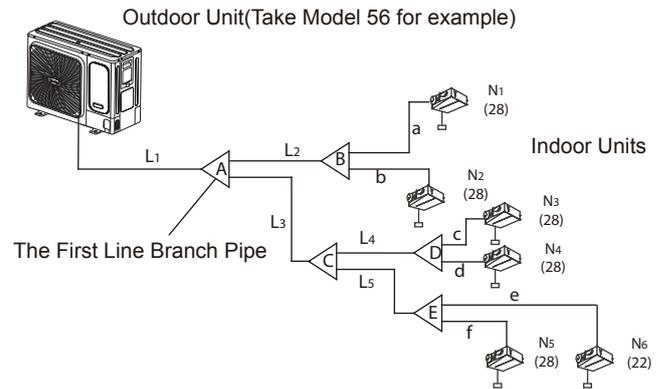
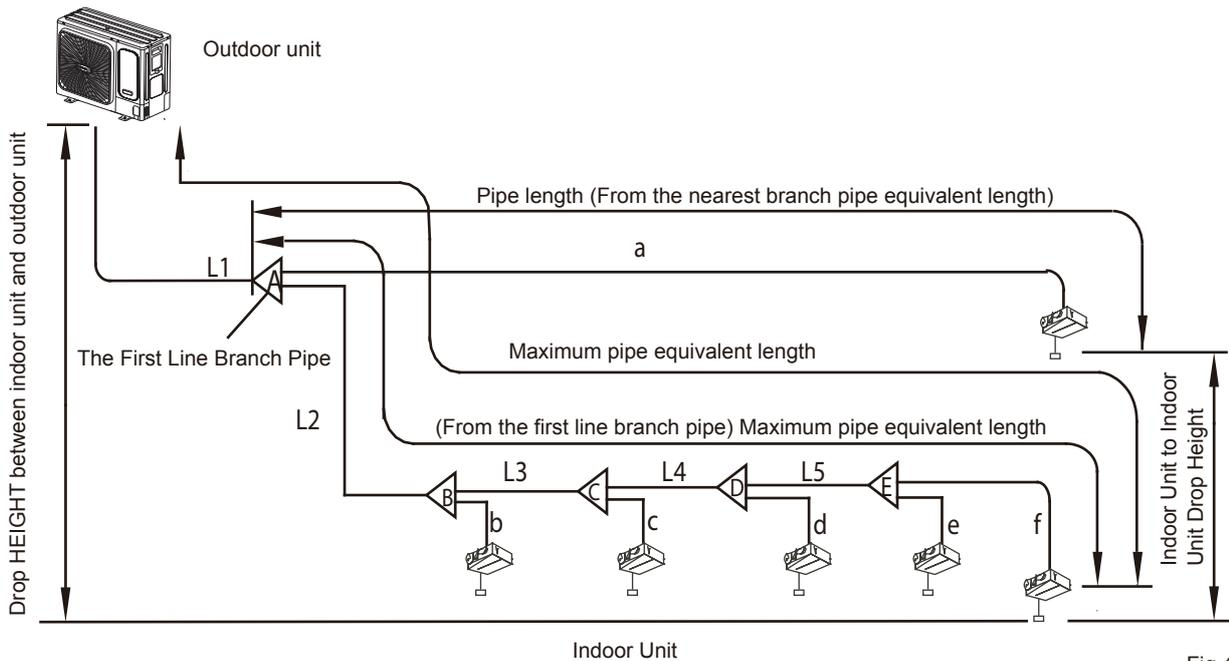

Fig.4-6
Fig.4-7
- Main pipe (Please refer to Fig.4-5 and Fig.4-7)
In Fig.4-6, the main pipe L1, the outdoor unit capacity is 16kW, and check the Fig.4-7 to get the size of gas pipe/liquid pipe is $\Phi 19.1 / \Phi 9.5$, and also the total equivalent length of liquid side and gas side pipes is $> 90m$, then check the Fig.4-4 to get the size of gas pipe/liquid pipe is $\Phi 22.2 / \Phi 9.5$, and according to the maximum value principle, it should apply the $\Phi 22.2 / \Phi 9.5$.